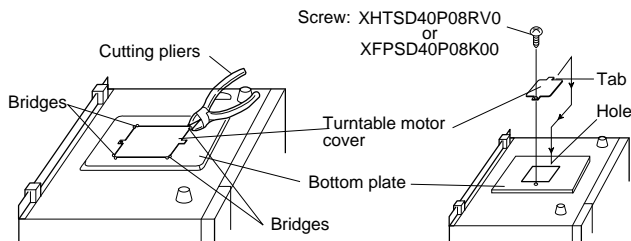
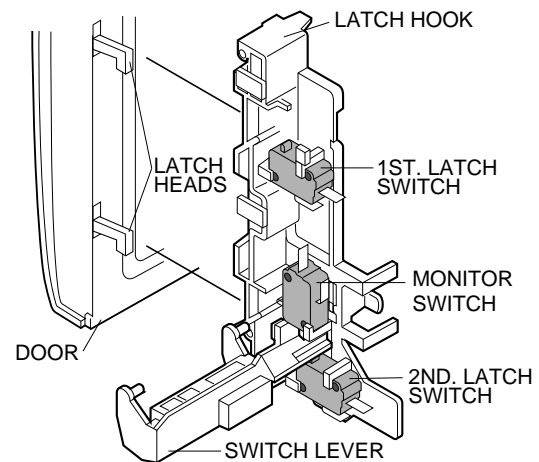

Figure C-4. Turntable Motor Cover
Figure C-6. Latch Switch Adjustments
4. Cut the four (4) bridges holding the turntable motor cover to the bottom plate with the cutting pliers as shown in Figure C-4.
7. Remove the single (1) screw holding the turntable motor to the oven cavity.
3. Apply the grease (Shinetsu silicone grease G-420 of Shinetsu Chemical Co. Ltd. or Toray Silicone grease SH-14 of Toray Silicone Co., Ltd.) to the O-ring and the base of the turntable motor shaft as shown in Figure C-6.
4. Re-install the turntable motor with the O-ring and washer to the oven cavity with the single (1) screw.
6. Insert the tab of the turntable motor cover into the hole of the bottom plate as shown in Figure C-4.
7. Re-install the turntable motor cover to the bottom plate with one (1) screw XHTSD40P08RV0 or XFPSD40P08K00 as shown in Figure C-4.